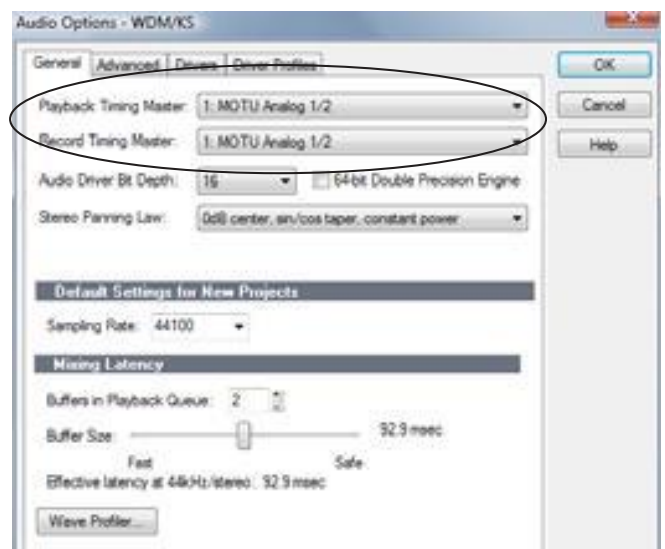

Figure 8-5: Make sure you have chosen an UltraLite-mk3 input and output for the playback and recording timing master settings.
- 2 Choose any UltraLite-mk3 input and output for recording and playback timing as shown below in Figure 8-5. It doesn't matter which ones.